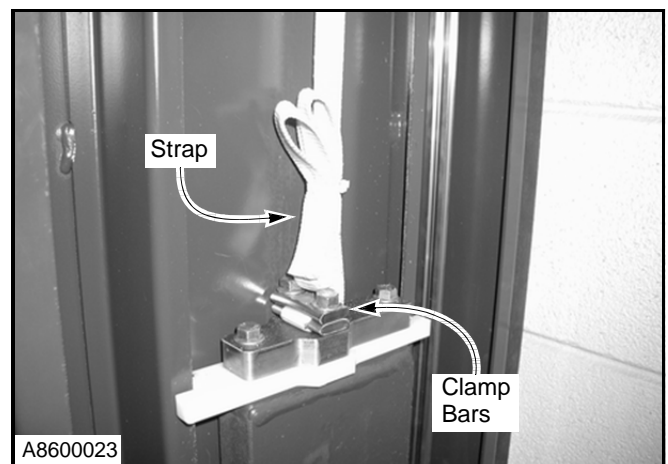

Figure 43
6. Loosen the clamp bars that secure the strap to the counterweight. (See Figure 43)